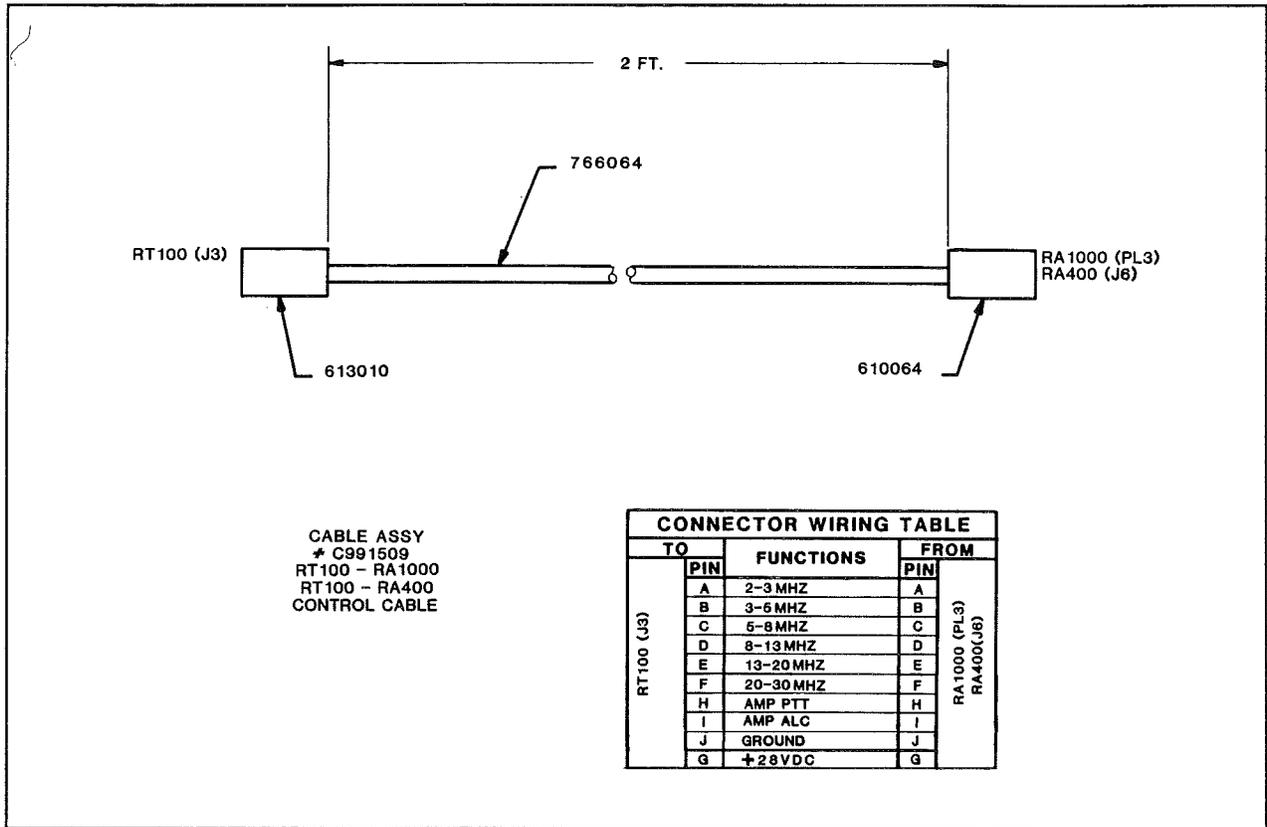

FIGURE 3-17. Control Cable (C991509).
2. C991509 -- See Figure 3-17.